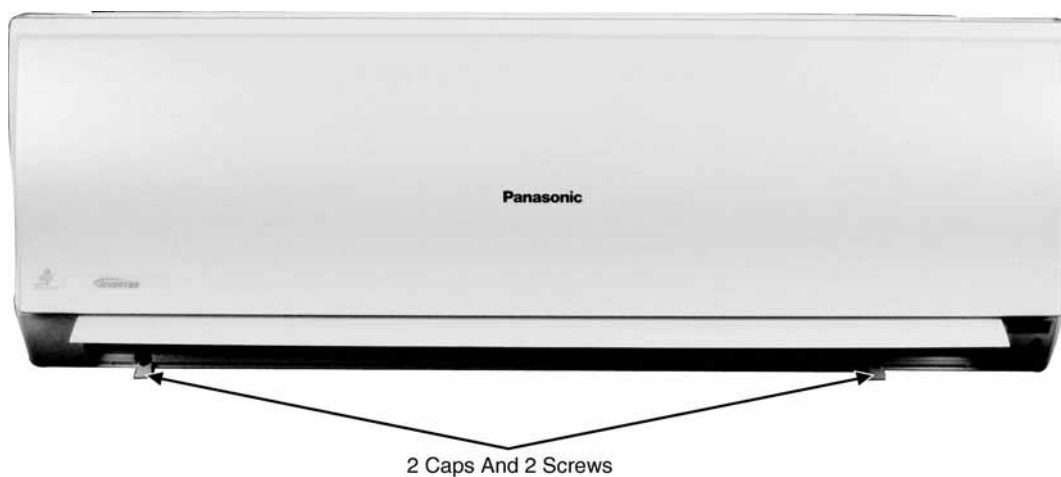

Fig. 1
1. Lift to open the horizontal vane gently. Remove the 2 caps and 2 screws at the bottom of discharge vane. (Fig.1)